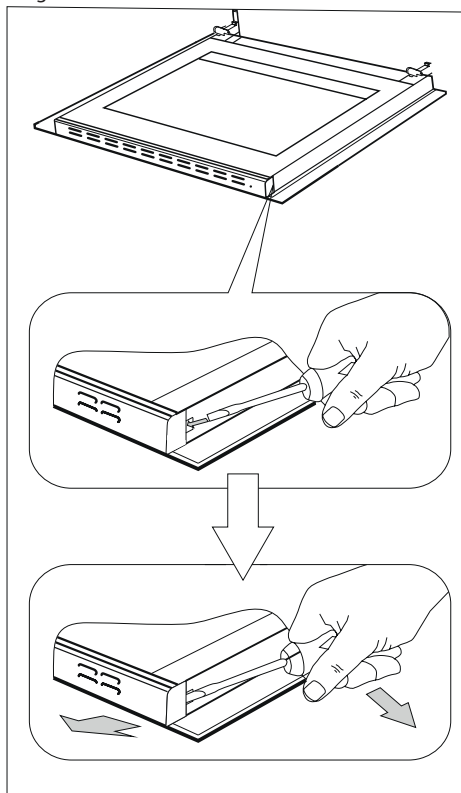

Fig.8
2. Remove the clamps with a flat screwdriver and remove the upper door bar (Fig. 8).